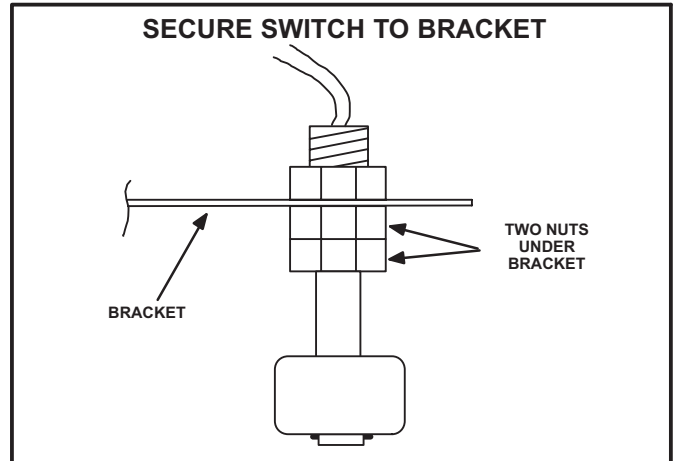
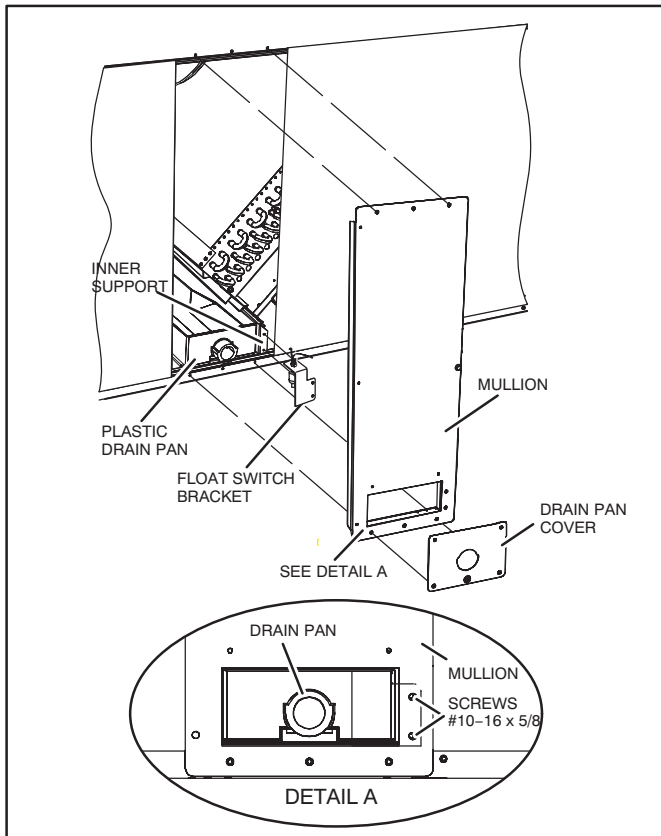

FIGURE 1. Float Switch Configuration
FIGURE 3. Accessing Mounting Location
- 2 - Two L-shaped brackets are included in the kit. Use only the bracket with the hole pattern that allows installation as illustrated in figure 3 Secure float switch assembly to proper bracket using the two nuts as illustrated in figures 1 and 2.
- 1 - Remove the drain pan cover panel at the condensate drain connection as shown in figure 3.
- 2 - Remove the two screws adjacent to the drain pan that fasten the mullion to the inner support as shown in figure 3, detail A.